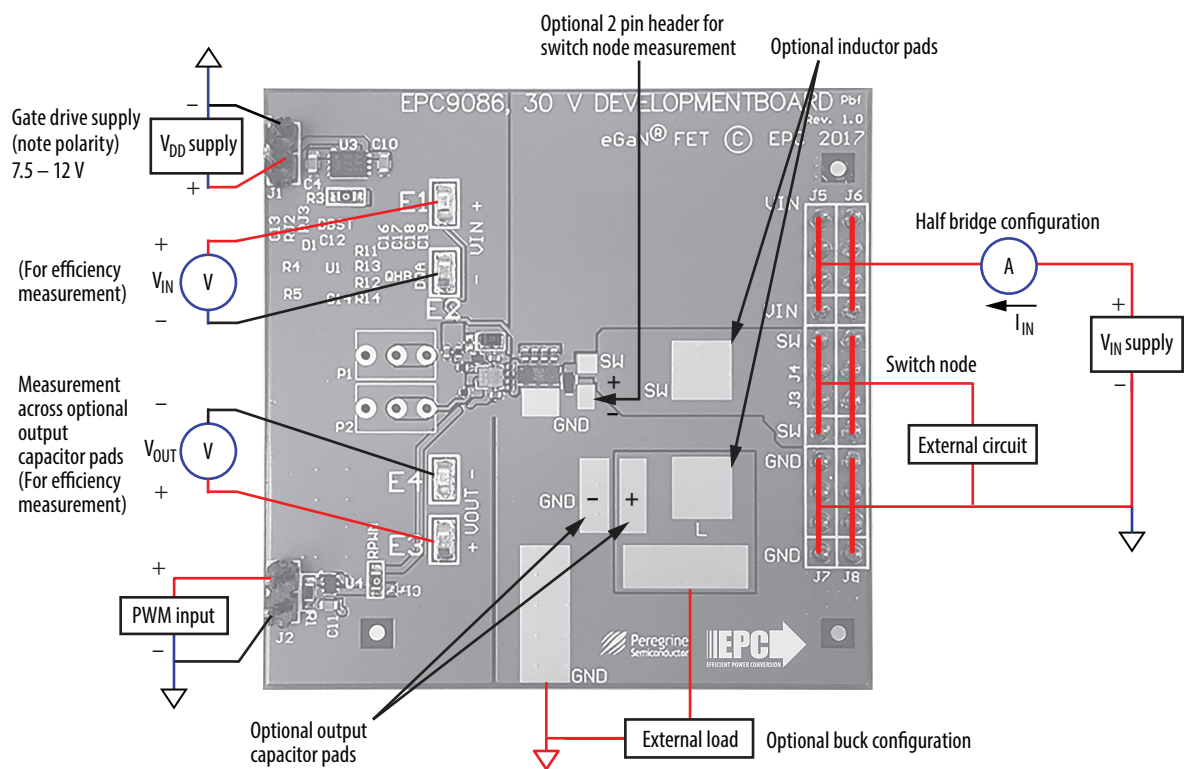

Figure 2: Proper connection and measurement setup.
Development board EPC9086 is easy to set up to evaluate the performance of the EPC2111 eGaNIC. Refer to figure 2 for proper connect and measurement setup and follow the procedure below:
2. With power off, connect the switch node (SW) of the half bridge OUT (J3, J4) to your circuit as required (half bridge configuration). The EPC9086 features an optional buck converter configuration, as shown in figure 2, with unpopulated footprints for an output inductor and output capacitors.
3. With power off, connect the gate drive input to +VDD (J1) and ground return to -VDD (J1) as shown in figure 2.
4. With power off, connect the input PWM control signal to PWM (J2) and ground return (J2) as shown in figure 2.